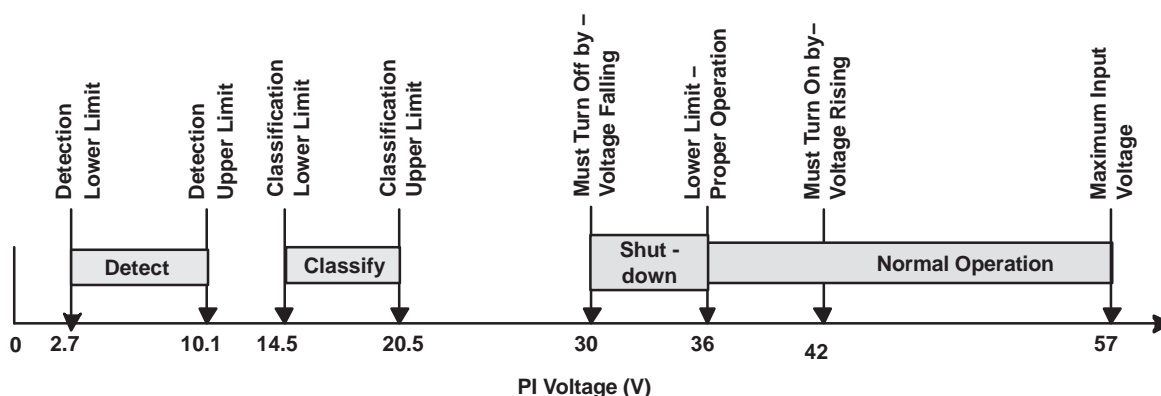
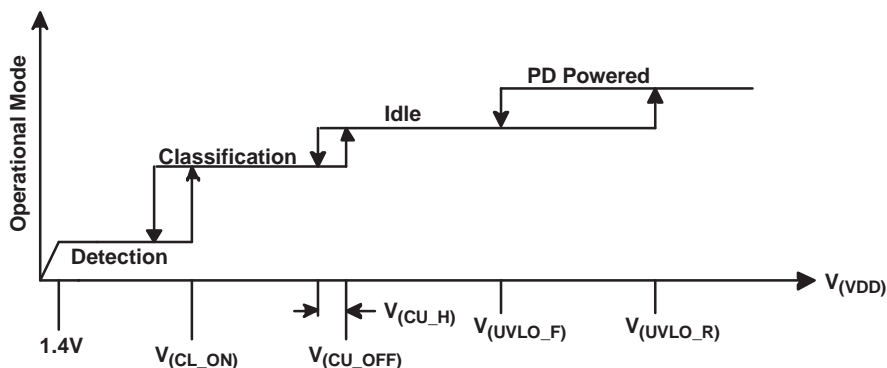

Figure 16. IEEE 802.3 PD Limits
Figure 17. Threshold Voltages
The IEEE 802.3af specification defines a process for safely powering a powered device (PD) over a cable, and then removing power if a PD is disconnected. The process proceeds through three operational states: detection, classification, and operation. The intent behind the process is to leave an unterminated cable unpowered while the PSE periodically checks for a plugged-in device; this is referred to as detection. The low power levels used during detection are unlikely to cause damage to devices not designed for PoE. If a valid PD signature is present, then the PSE may optionally inquire how much power the PD requires; this is referred to as classification. The PD may return a default full-power signature, or one of four other choices. Knowing the power demand of each PD allows the PSE to intelligently allocate power between PDs, and also to protect itself against overload. The PSE powers up a valid PD, and then monitors its output for overloads. The maintain power signature (MPS) is presented by the powered PD to assure the PSE that it is there. The PSE monitors its output for the MPS to see if the PD is removed, and turns the port off, if it loses the MPS. Loss of MPS returns the PSE to the initial state of detection. Figure 16 shows the operational states as a function of PD input voltage range.
In order to implement the PoE functionality as shown in Figure 16, the TPS2375-1 has a number of internal comparators with hysteresis for stable switching between the various states. Figure 17 relates the parameters in the Electrical Characteristics section to the PoE states. The mode labeled *idle* between classification and detection implies that the DET, CLASS, PG, and RTN pins are all high impedance.
The classification process applies a voltage between 14.5 V and 20.5 V to the input of the PD, which in turn draws a fixed current set by $R_{(CLASS)}$. The PSE measures the PD current to determine which of the five available classes (Table 1) that the PD is signalling. The total current drawn from the PSE during classification is the sum of bias currents and current through $R_{(CLASS)}$. The TPS2375-1 disconnects $R_{(CLASS)}$ at voltages above the classification range to avoid excessive power dissipation (Figure 16 and Figure 17).
The TPS2375-1 incorporates an undervoltage lockout (UVLO) circuit that monitors line voltage to determine when to apply power to the downstream load and allow the PD to power up. The IEEE 802.3af specification dictates a maximum PD turnon voltage of 42 V and a minimum turnoff voltage of 30 V (Figure 17). The IEEE 802.3af standard assumes an 8-V drop in the cabling based on a 20-Ω feed resistance and a 400-mA maximum inrush limit. Because the minimum PSE output voltage is 44 V, the PD must continue to operate properly with input voltages as low as 36 V. The TPS2375-1 UVLO limits are designed to meet the turnon, turnoff, and hysteresis requirements.
The TPS2375-1 uses the UVLO function to control the load through an integrated MOSFET switch. Figure 17 graphically shows the relationships of the UVLO thresholds defined in the Electrical Characteristics section to the TPS2375-1 operational states.